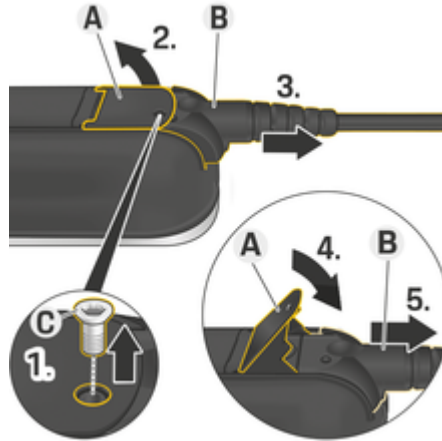

Fig. 15: Releasing cable
1. Remove screw **C** (Fig. 15) using a suitable tool.
2. Lift the lever **A** (Fig. 15).
3. Pull out plug **B** (Fig. 15) until resistance is first felt.
4. Close the lever **A** (Fig. 15).
5. Pull out plug **B** (Fig. 15) fully.